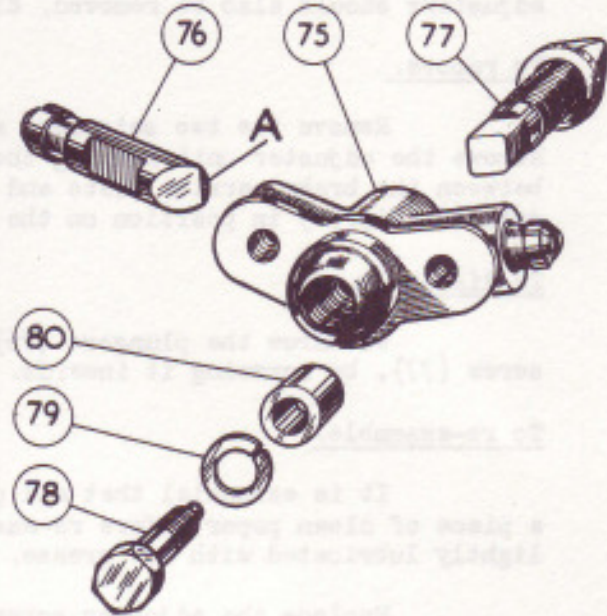

FIG. 14. EXPLODED VIEW OF FRONT ADJUSTER.
Remove the two setscrews and spring washers (78 & 79 Fig.14). Remove the adjuster unit leaving the two distance pieces (80) in position between the brake carrier plate and the water excluder. Leave the rubber seal (92 Fig.12) in position on the water excluder.
Replace the adjuster screw in the housing and then correctly replace the plungers. It is important to note that the plungers are handed and it is possible to assemble them the wrong way round. When assembled the inclined faces 'A' (Fig.14) on the inner ends of the plungers must be parallel when viewed along the axis of the adjuster screw. When the plungers are correctly assembled there are four evenly spaced clicks per turn of the adjuster screw. Should they be incorrectly assembled there will be eight unequally spaced clicks per turn.